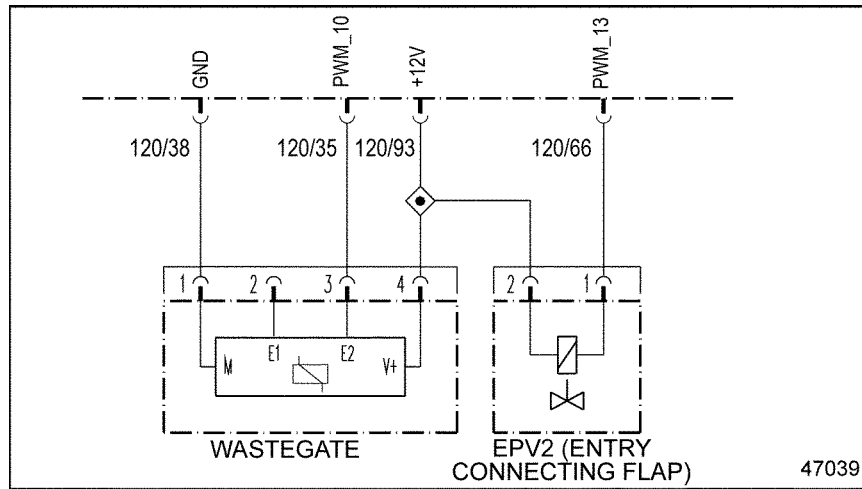

Figure 32-2 EPV2 (Volute) and Wastegate
- [a] If 704/4 is active with 706/4, repair the short to ground between pin 93 of the 120-pin MCM connector and pin 2 of the EPV2 connector and pin 4 of the wastegate connector. See Figure 32-2. Refer to section 32.2.1.1.